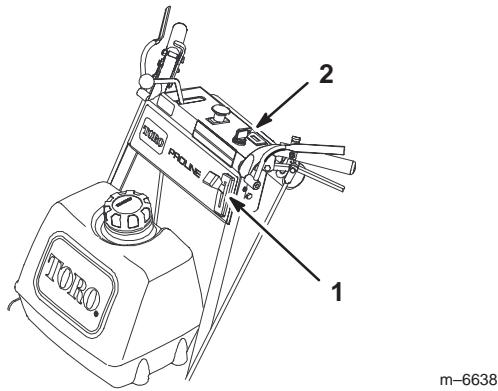

Figure 12
4. Turn ignition key "START" to energize starter (Fig. 12). When engine starts, release key.
1. Move the throttle lever to the Slow position (Fig. 12).
3. Turn the ignition key to Off (Fig. 12).